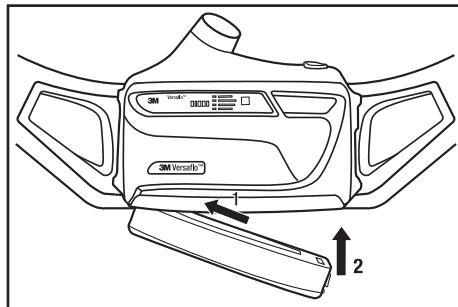

Fig. 10 – Installing battery
To install a charged battery pack, hold the unit so the filter cover faces you (Fig. 10).
- Hook the hinge end of the battery pack into its holder on the bottom of the unit (Fig. 10, step 1).
- Push the latch side of the battery pack into the motor/blower until the latch engages with an audible click (Fig. 10, step 2).